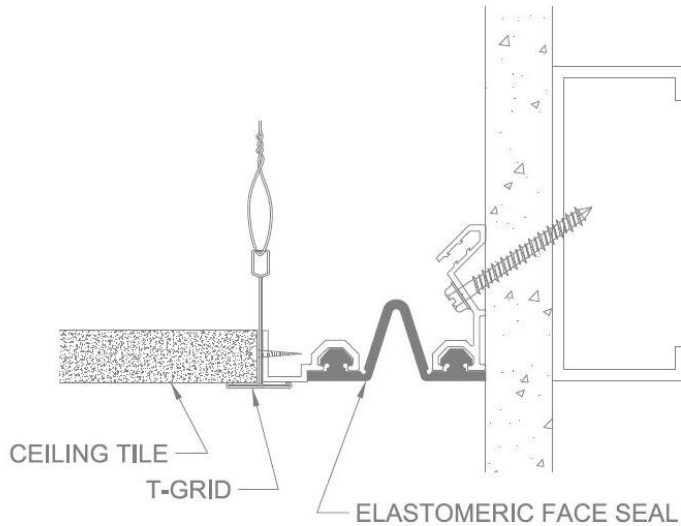

FIGURE 3
3. Replace the ceiling tile on the non-wall side of the joint opening. **See Figure 3.**